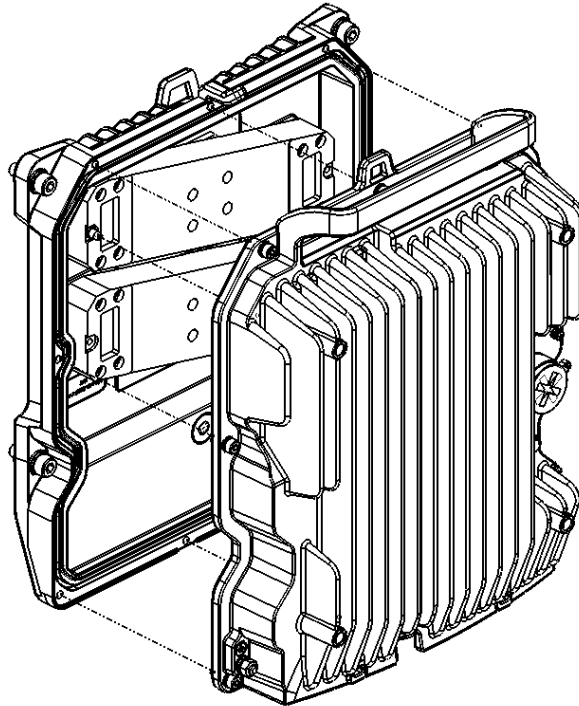
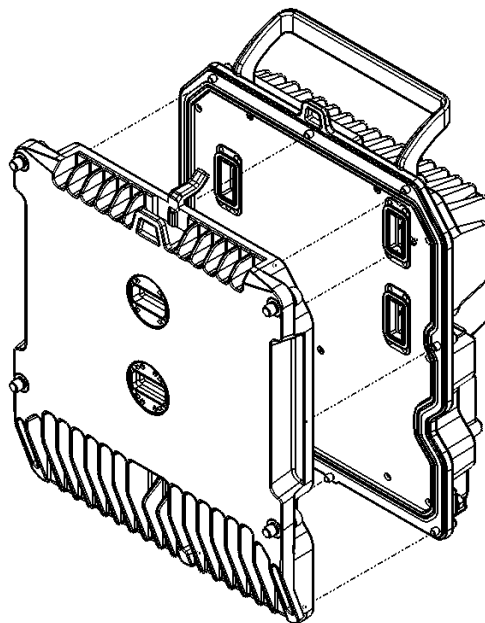

Figure 26: Fitting the Diplexer Unit to the Radio Unit - Radio Side
Figure 27: Fitting the Diplexer Unit to the Radio Unit - Diplexer Unit Side
- 2 Position the diplexer unit on the radio unit so that the two location pins mounted on the TRX ports of the diplexer unit (Figure 26) fit into the corresponding holes in the radio unit (Figure 27).